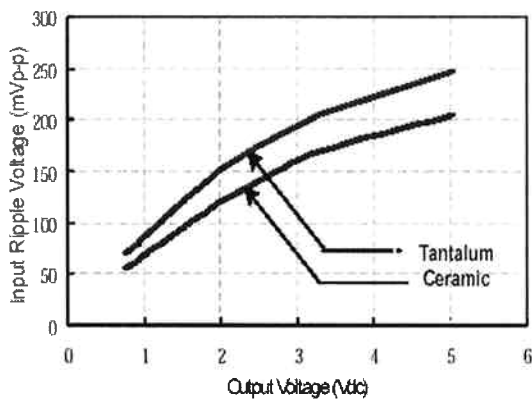

Figure 8 Input voltage ripple VS Output voltage
3. 2 $\times$ 47 $\mu$ F tantalum, 2 $\times$ 22 $\mu$ F ceramic ----- Figure 8